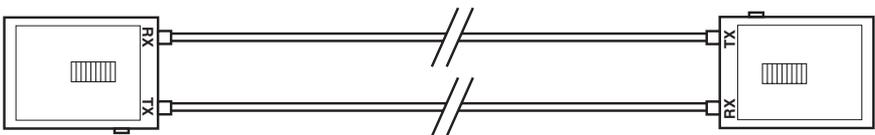

Fig. 3-2. Checking a Duplex Cable.
3.3 Using a Pair of Testers to Check a Duplex Cable (Fig. 3-2)